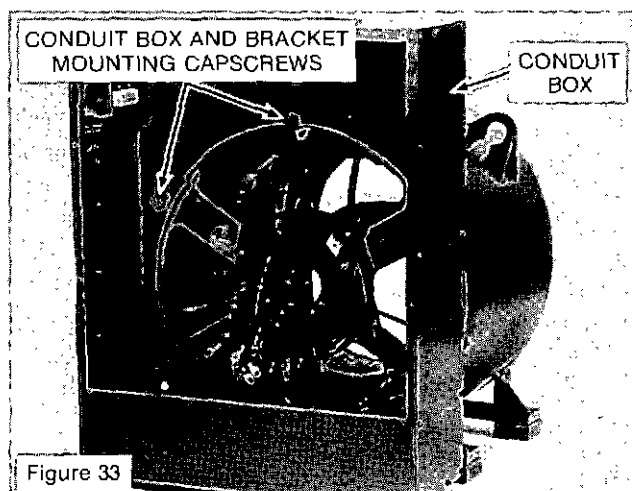

Figure 33
3. Insert two capscrows and starwashers through the conduit box and mount the conduit box to the bracket and main stator and frame assembly. (See Figure 33.)